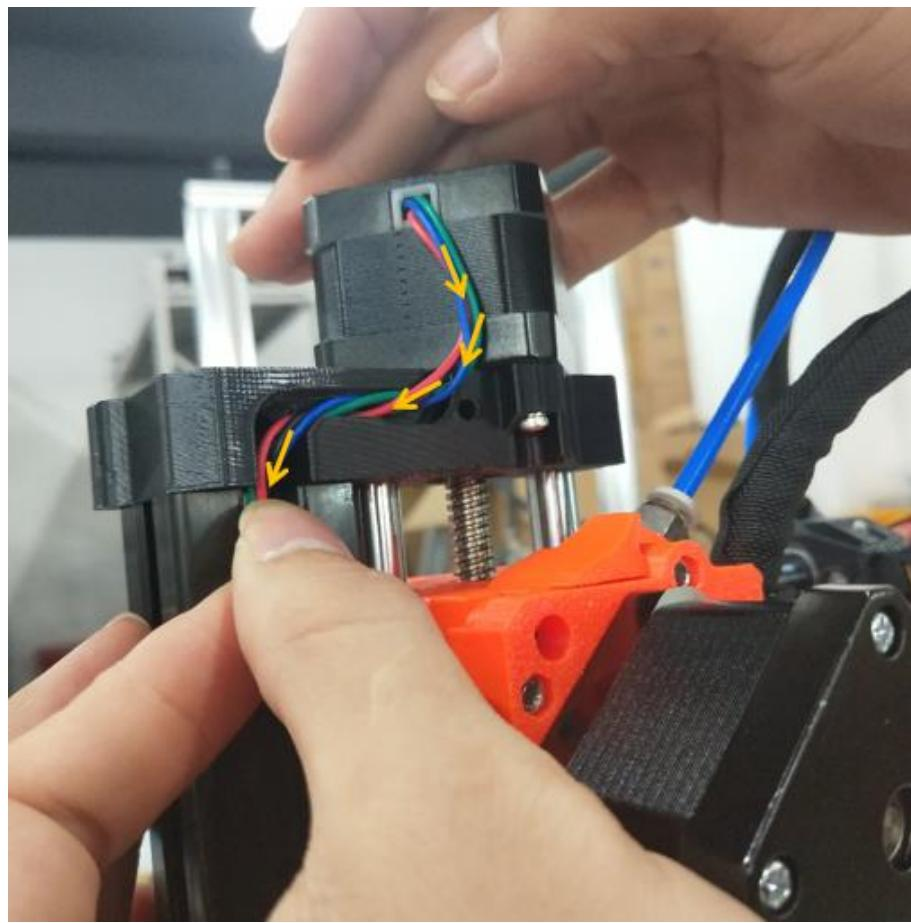

Figure 4.2.4
**Step 4-2-4:** Embed the Z-axis motor cable into the MINI-z-top cable slot as shown in Figure 4.2.4.